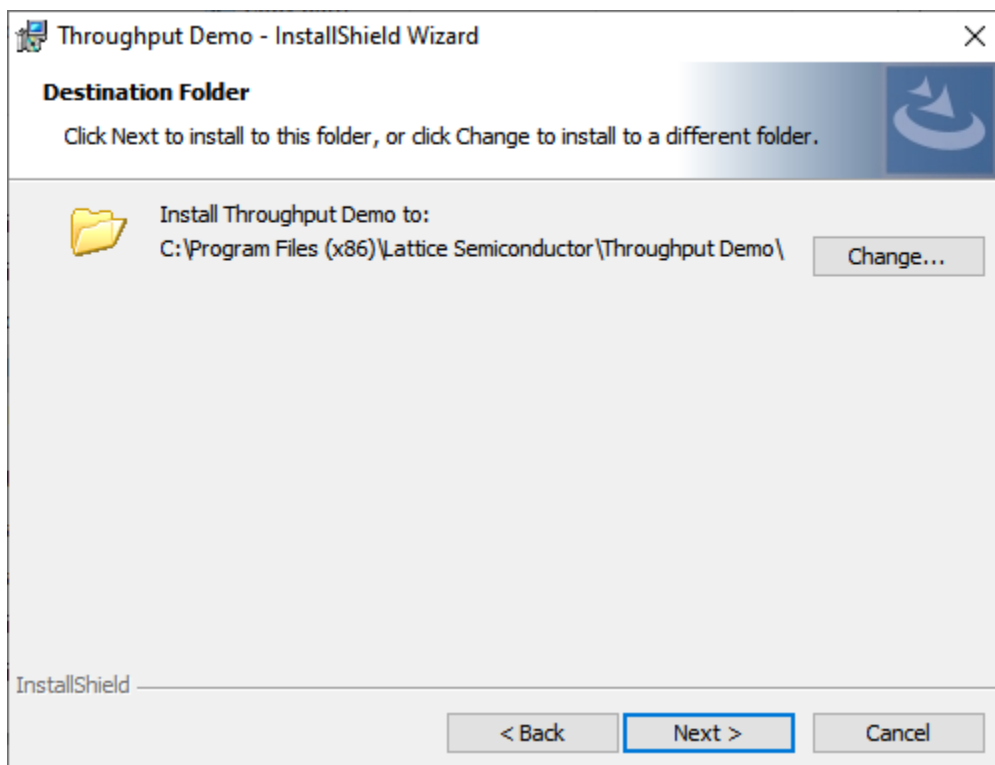

Figure 3.24. Destination Folder Page
3. Provide the location where you want to install the application (Figure 3.24). Click **Next**.